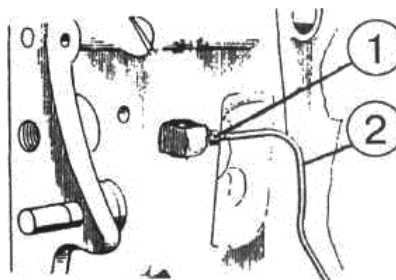

Figure 4.79
a) unscrew cap nuts 1 (Figure 4.79) and dismantle pipeline 2;